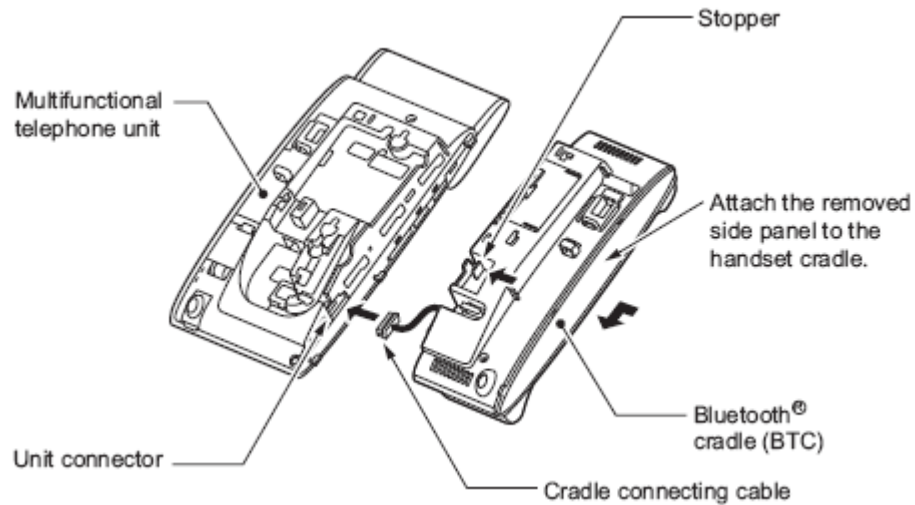

Figure 5-136 Attach Bluetooth Cradle to the Multiline Terminal
11. Fit the projections on the side of the Bluetooth Cradle into the guide holes on the side of the terminal and pull toward you (Figure 5-136 Attach Bluetooth Cradle to the Multiline Terminal) until the unit snaps into place.